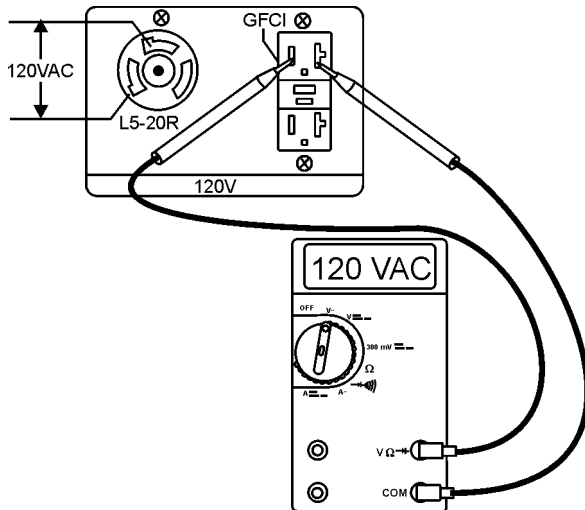

Figure 17. 120 VAC GFCI Receptacle
- If desired, verify with a voltmeter (Figure 17) that 120 VAC is present at the GFCI duplex receptacle and the 120V twist-lock receptacle (S/N 5497957 and above).
- Place the **operation switch** (Figure 17) in the **OFF** position S/N 5497956 and below).